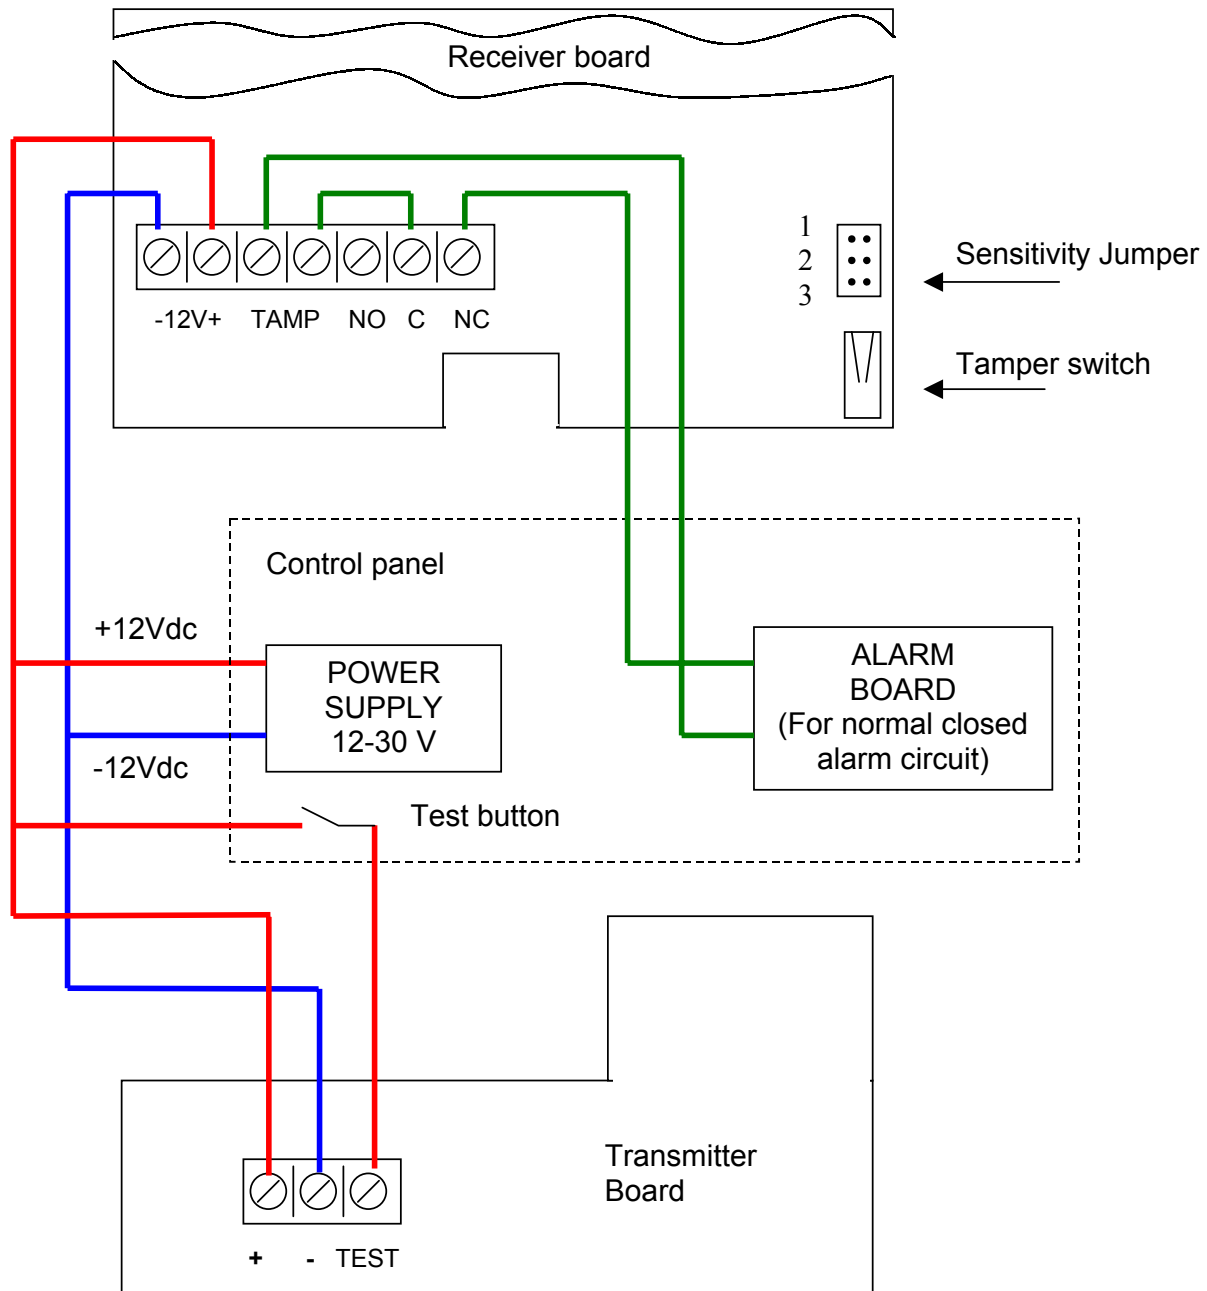

Fig. 6. Control Unit and CSB-60 – Wiring Diagram
2. Make sure you switched on the power supply and outgoing electric circuit of the sensor correctly as shown in fig. 6.